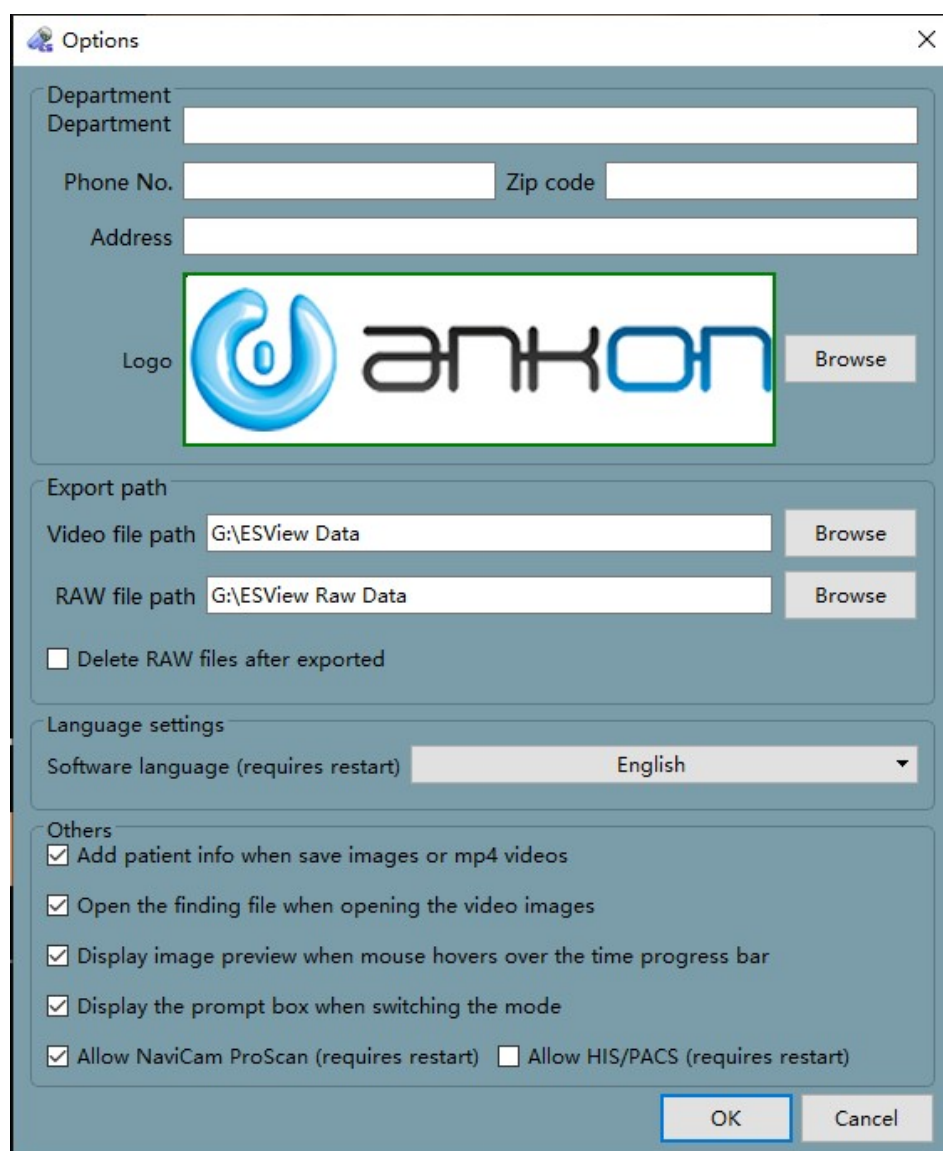

Figure 4-43: ProScan Feature Option
1) Check the "Allow NaviCam ProScan (requires restart)" option, and restart the ESView software to take effect, as shown in Figure 4-43.